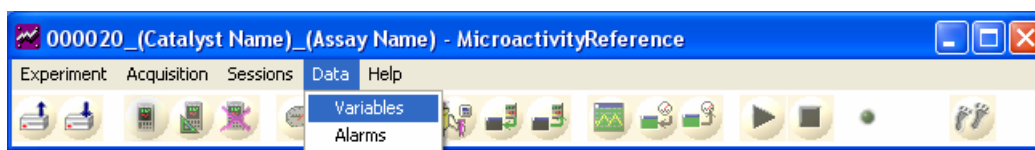

Figure 5-17
2. Select the option **"Variable"** (Figure 5-17).